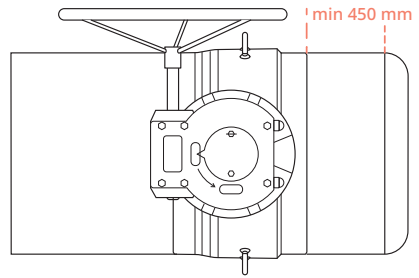
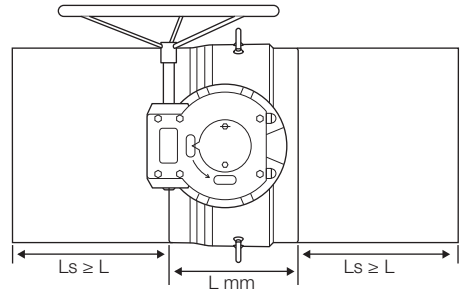

Figure 18. Blank flange.
Figure 22. The recommended method
- The recommended method of welding the valve to the pipeline is welding with connection pipes (see Figure 22.). Tack welding and the welding order for the seams are the same as in Figures 18. and 19. Welding order: 1-2-3-4.